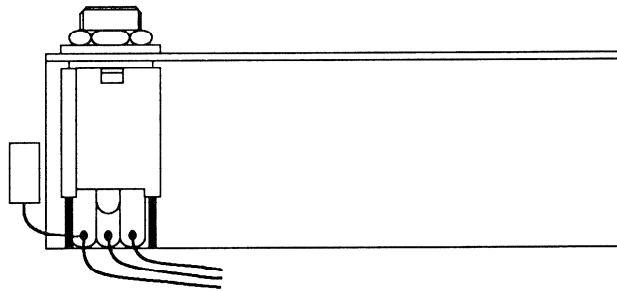

Fig. 2
- Guide the cable harness with the headphones socket through the rectangular cutout in the die-cast tape deck chassis and screw the socket included in the kit to the mounting bracket (1/2" wrench), Fig. 2.